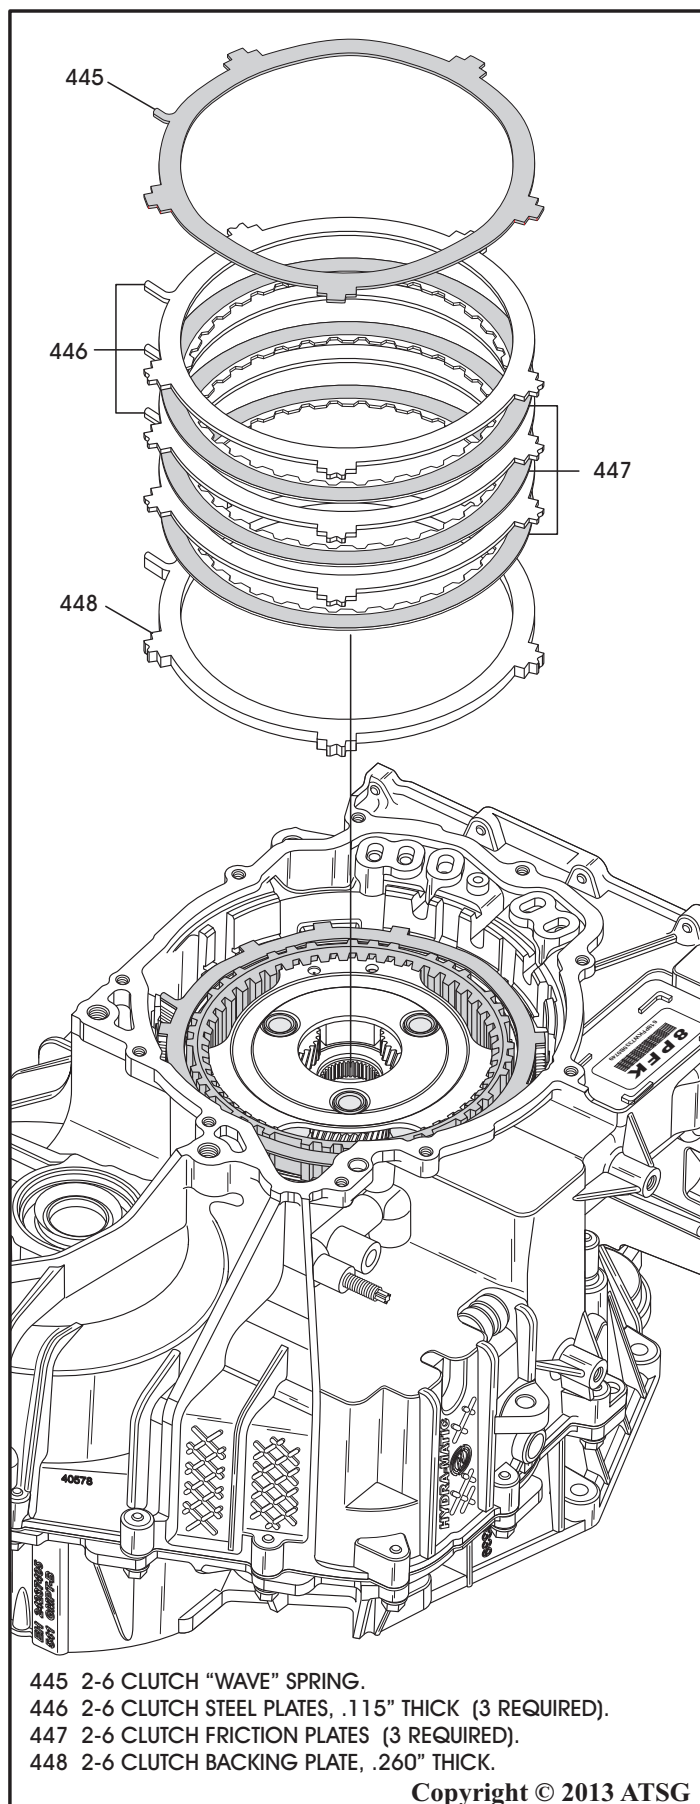

Figure 58
28. Remove the 2-6 clutch "wave" cushion plate, as shown in Figure 58.
29. Remove the 2-6 clutch steel and friction plates, three of each, as shown in Figure 58.
30. Remove the 2-6 backing plate, as shown in Figure 58.
**Note:** Note the location of the long tabs on the wave, steel and backing plates towards the bottom of the case (See Figure 58).